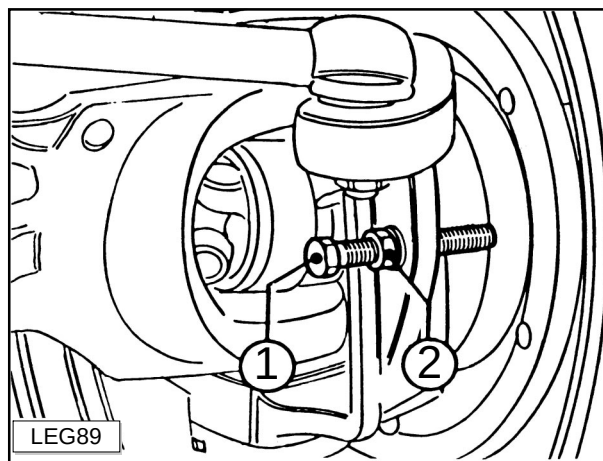

Fig. 4-42
The maximum steering angle of the 4WD front axle can be varied depending on the type of tyre mounted and the way the tractor is used. The angle is changed by loosening the nut (2) and adjusting the stop screw (1 - Fig. 4-42) on the final drive of the axle. Then tighten the nut (2) again.